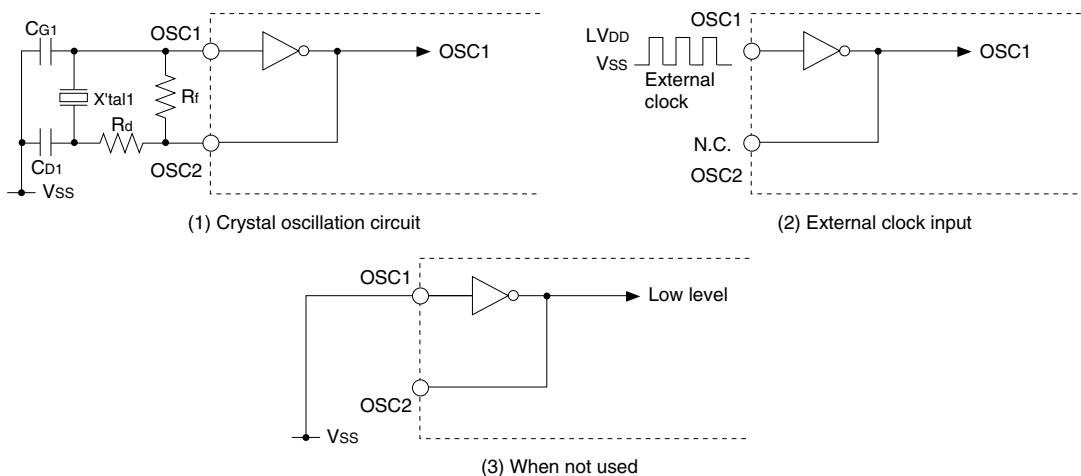

Figure II.2.5.3.1 OSC1 Oscillator Circuit
The OSC1 oscillator circuit accommodates a crystal oscillator and external clock input. As for the RTC, LVDD is used to supply power to this circuit. Figure II.2.5.3.1 shows the structure of the OSC1 oscillator circuit.
For use as a crystal oscillator circuit, connect a crystal resonator X'tal1 (32.768 kHz, typ.), feedback resistor (R_f), two capacitors (C_{G1} , C_{D1}), and, if necessary, a drain resistor (R_d) to the OSC1 and OSC2 pins and V_{SS} , as shown in Figure II.2.5.3.1 (1).